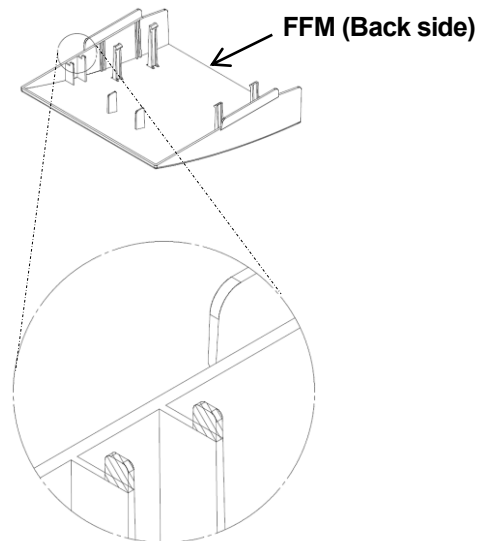

Figure 2. Part (shaded area) to remove surgically
- ① NES1-015 to 022SB/LB,022HB,040HB
- ② NES1-015HB
- ③ NES1-007HB
- The inverter included in ①, fit FFM in the cover upper surface of the main body of inverter.
- The inverter included in ②, after having removed the back side rib of FFM in figure 2 (shaded area) surgically by nippers, fit FFM in the cover upper surface of the main body of inverter.
- The inverter included in ③, after having removed the back side rib of FFM in figure 2 and 3 (shaded area) surgically by nippers, fit FFM in the cover upper surface of the main body of inverter.